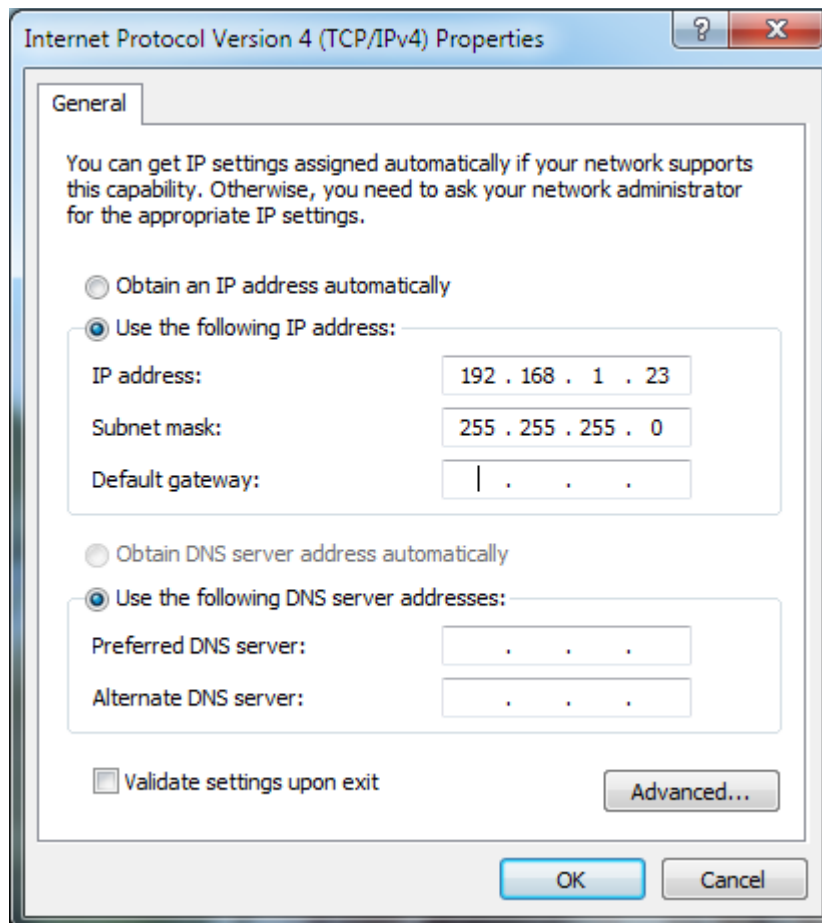

Figure 2.1 - Example of a PC Ethernet Port Settings Window
- A computer (PC or Mac) set to a static IP address in the subnet 192.168.1.xxx, where xxx is a subnet address (0 to 255) not being used by any other device on the network. Do not use 192.168.1.9 or the final IP address you will be using for the Netlink. Disable any active WiFi connections. See Figure 2.1.